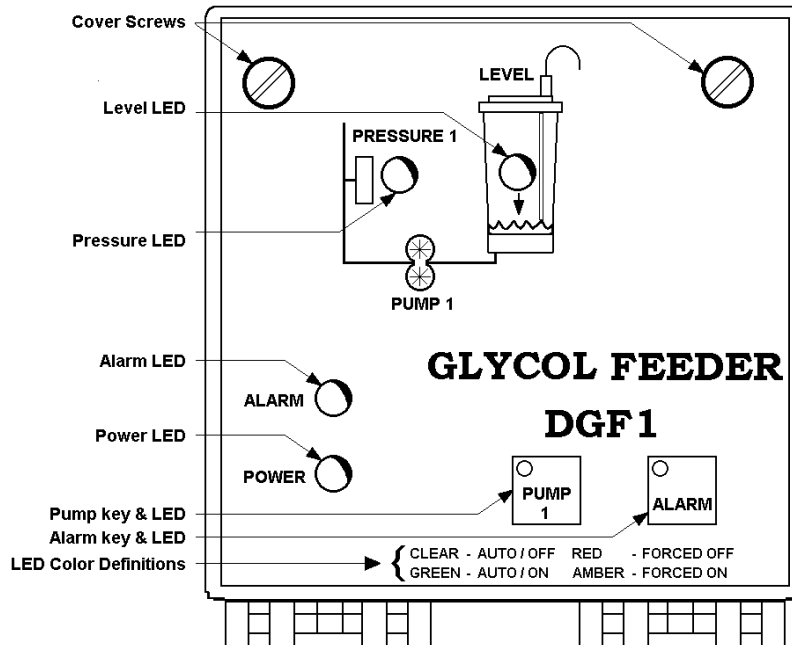
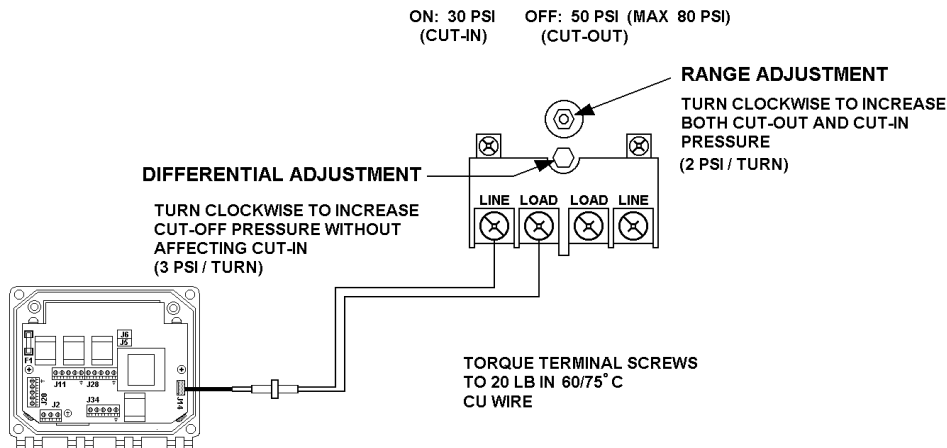

Figure 20 – User Interface
Figure 22 – High Pressure switch
The User Interface is shown below (Figure 20).
- a) If the LED is RED, adjust the Pressure Switch Range Adjustment Screw (refer to *Figure 22*) counter-clockwise until the Pressure LED goes out (refer to *Figure 20*).
- b) Adjust the Pressure Switch Range Adjustment screw (refer to *Figure 22*) if the indicated pressure is not correct for your application.